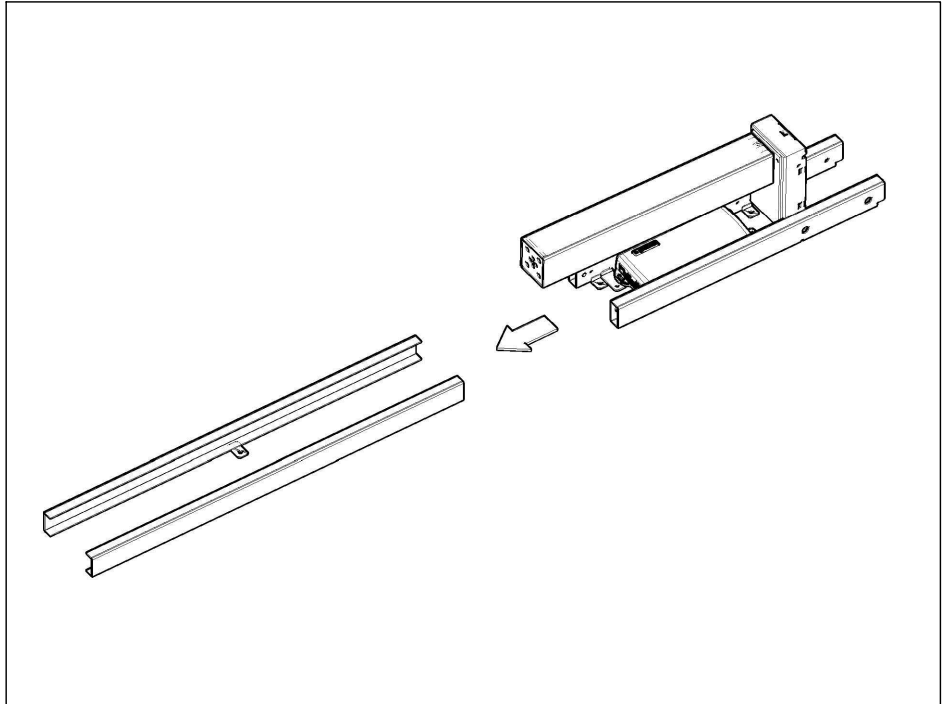

FIGURE 3
3. Remove the channels by sliding them out (Figure 3).